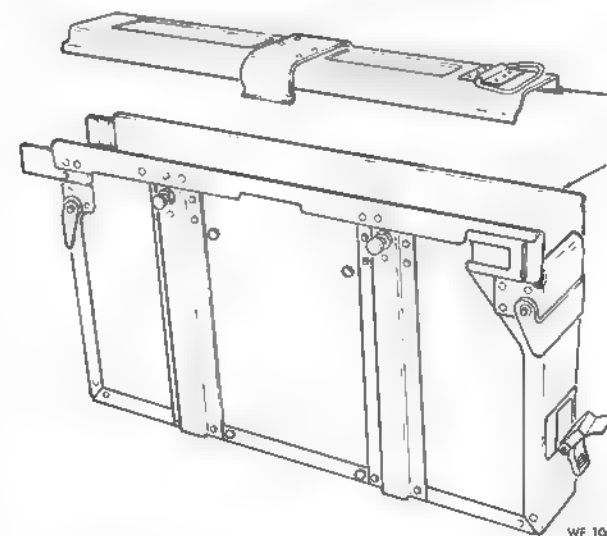

Figure 3-13. Ammunition box and cover assembly—partially exploded view.
a. *Disassembly and/or Assembly.* Refer to figure 3-13.